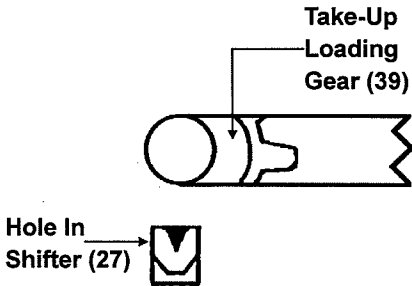

Figure 5
Align the Take-Up Loading Gear (39) with the hole in the Shifter (27) as shown in figure 5.